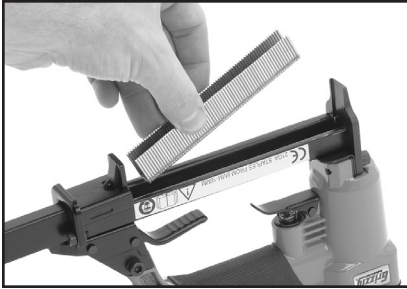

Figure 6. Loading staples.
3. Insert a strip of staples into the magazine, as shown in **Figure 6**, and slide the magazine pusher all the way forward.